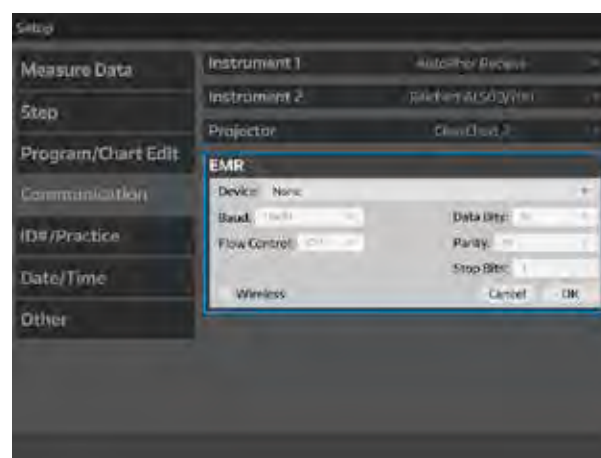

Figure IS-38 Settings Menu
5. Touch **OK** to save the settings and close the EMR settings box, and go back to the Communication screen. Refer to Figure IS-38.